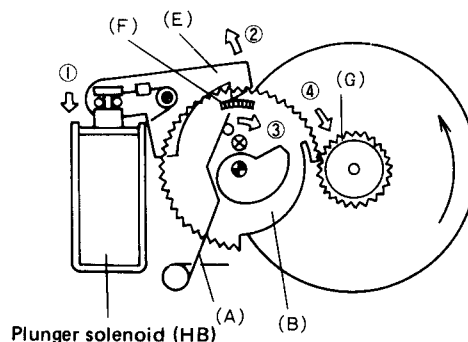

Fig. 4-2 STOP to PLAY operation 1
- **STOP → PLAY (Fig. 4-2)**
1. The plunger solenoid (HB) is activated.
2. The lever (E) hook is disengaged from the stopper (F).
3. Spring (A) forces gear (B) to rotate.
4. Gear (B) engages gear (G).
First, the plunger solenoid (HB) is activated to switch the mechanism to playback mode as shown in Figs. 4-2 thru 4-4 (but only for a very short period of time). Plunger solenoid (MS) is activated at the same time, and although plunger solenoid (HB) is soon released, the head base is kept in the raised state by plunger solenoid (MS) via MS arm B, brake lever, and HB stopper. The pinch roller is separated from the capstan by MS arm A. When the reel motor then rotates, the cue (review) operation is started.